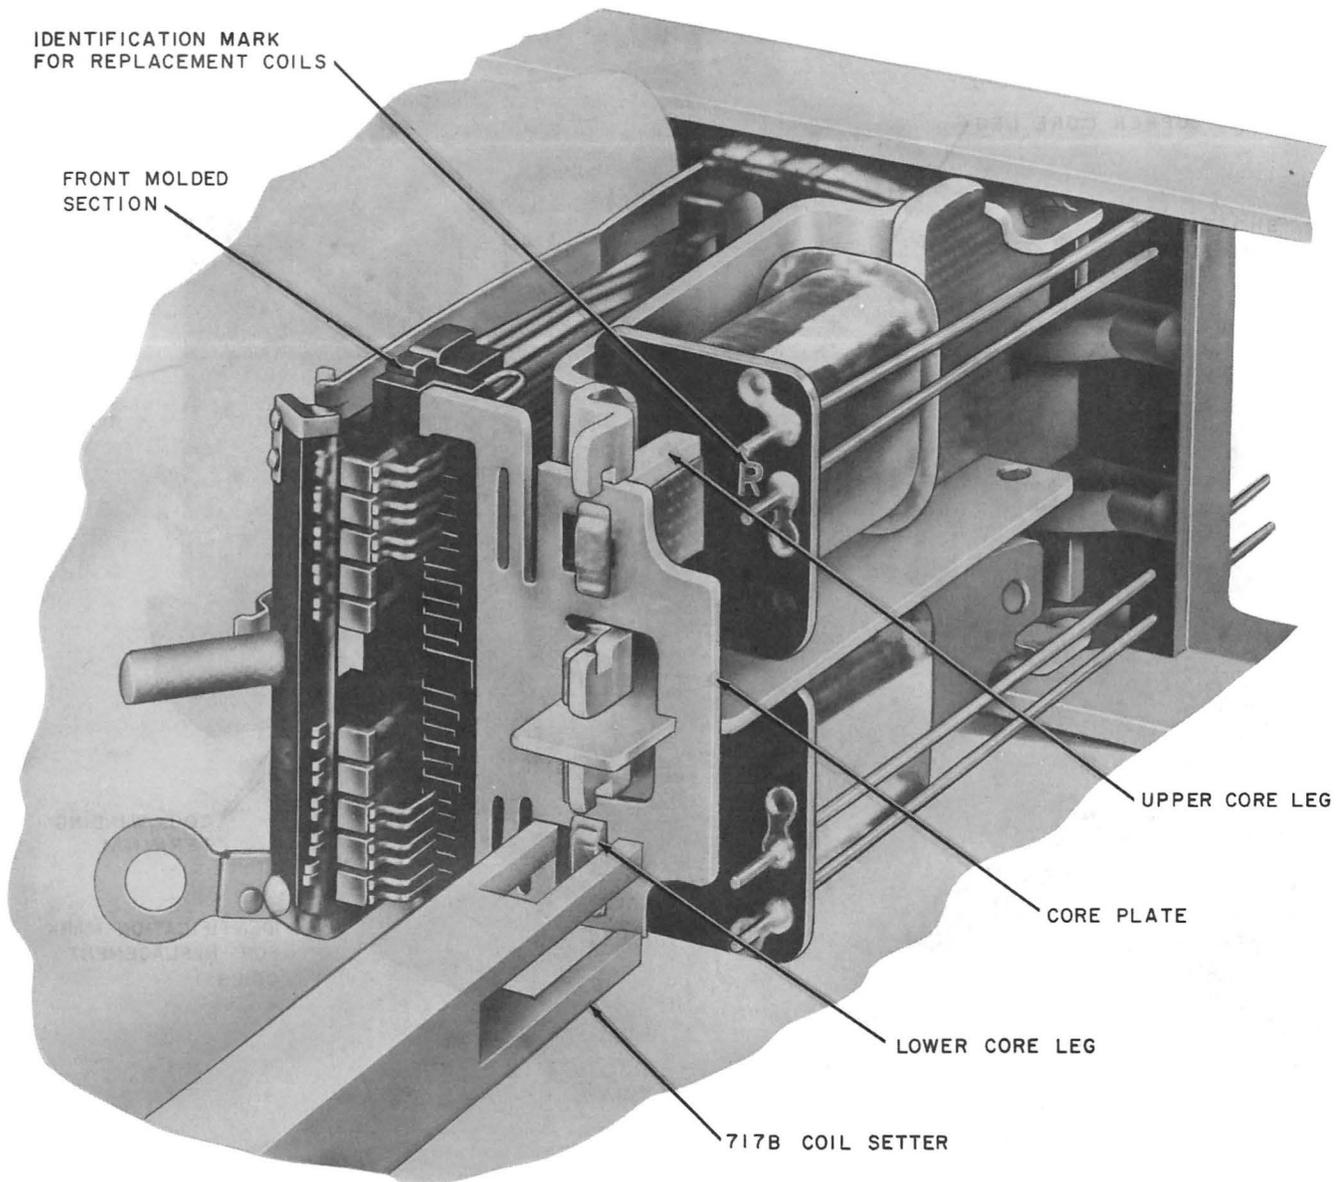

Fig. 35—Positioning Core Plate with 717B Coil Setter
to the left. Position the new core plate in front of the core legs with the armature stop on the core plate facing away from the relay. Manually start the core plate on the core legs and position the upper and lower portion of the front molded section against the core plate. Using the 717B coil setter and the 4-ounce riveting hammer, gently tap the core plate into position on the core legs. Fig. 35 shows the coil setter being used to position the core plate on the lower core leg.
- (b) The force of the front molded section (Fig. 35) of the single wire block against the core plate drops to less than about 25 grams at top or bottom. Gauge by feel. This force prevents movement of the fixed contacts, and is normally over 200 grams.